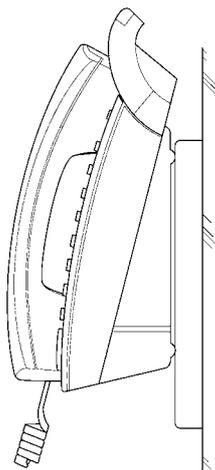

Figure 7-68 Installed Wall Mount Unit
10. When properly installed, the wall-mounted Multiline Terminal looks similar to the one shown in *Figure 7-68 Installed Wall Mount Unit*.